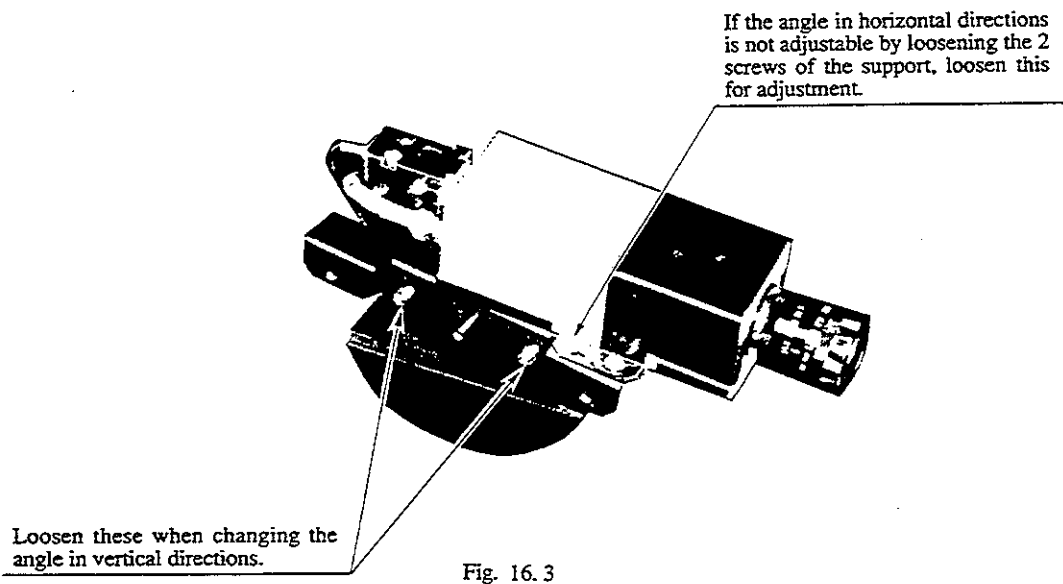

Fig. 16. 3
- ⑤ For angle changes in vertical directions, loosen the 4 screws on each side and adjust the direction of the camera (Fig. 16. 3). For changing the angle in horizontal directions, normally, loosen the 2 screws of the support and adjust the direction of the camera. When further changing the angle in horizontal directions, adjust the direction of the camera by loosening the 2 screws shown in Fig. 16.3.
- ⑥ After adjustments are finished, retighten the loosened screws and install Cover parts.
- ⑦ Clear the status mentioned in Procedure① in which images are shown by priority on the 25 inch monitor. When the TEST MODE is used, finish the test mode procedure. When the Control Tower is used, turn the Service Panel's Main SW off.